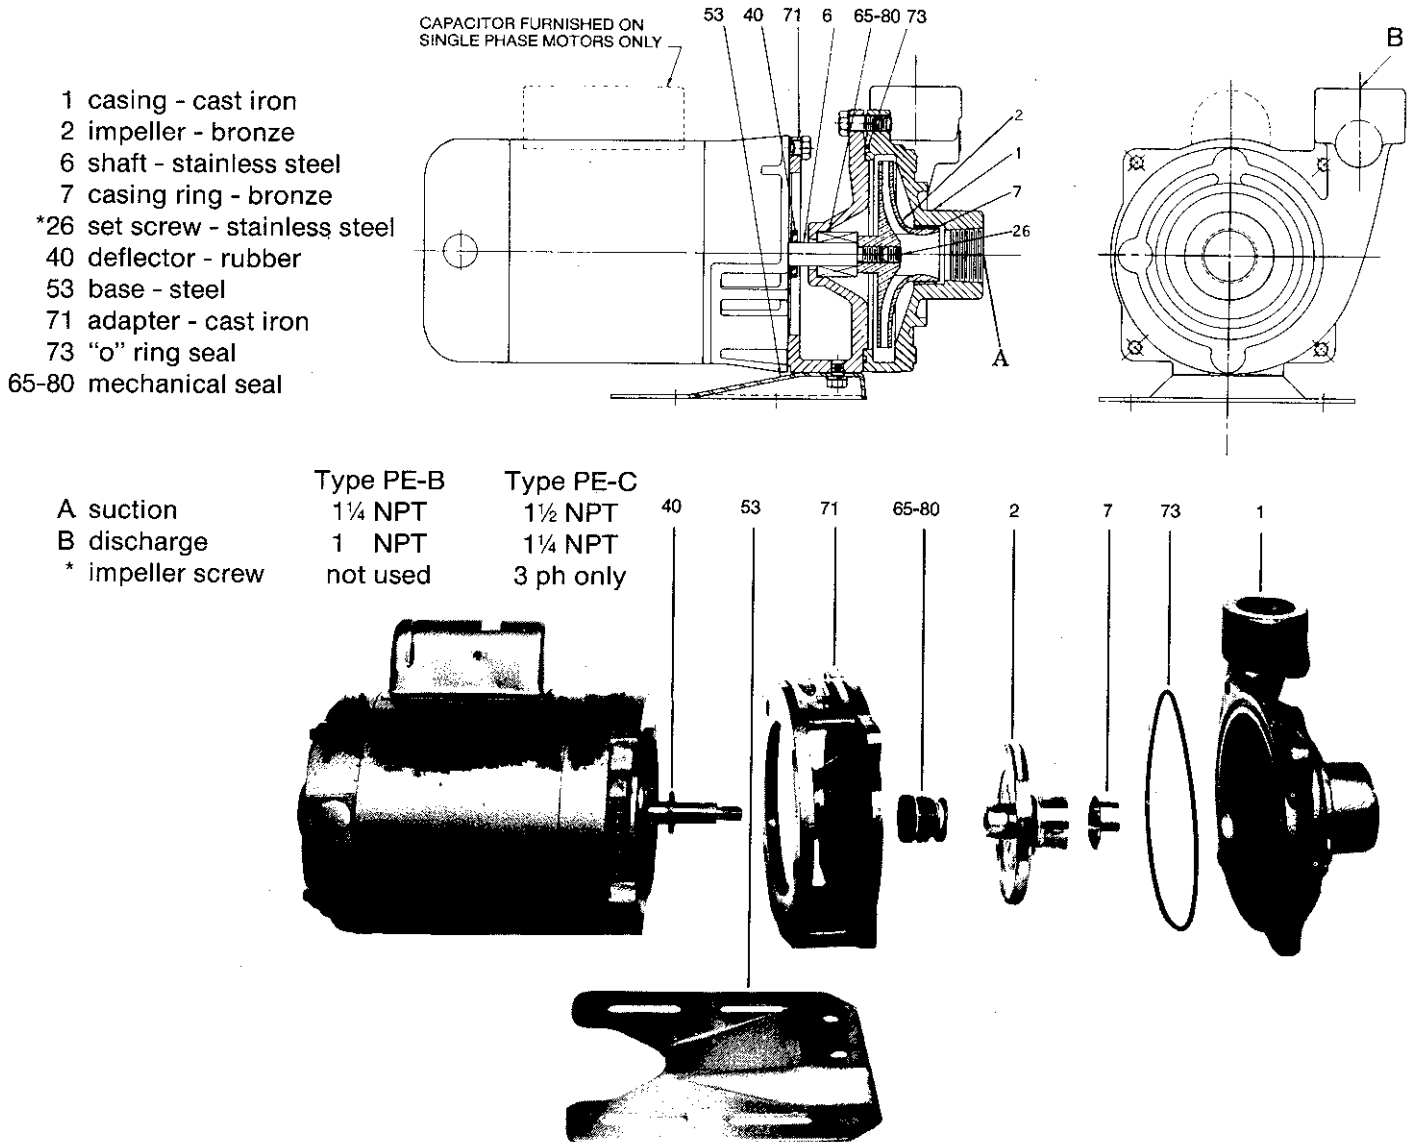

FIGURE 1. CLOSE COUPLED SERIES PE-B and PE-C
PE-B and PE-C: See figure 1. Remove the 4 case-to-adaptor screws and the mounting foot-screws. This permits removal as an assembly the motor, the adapter, the foot, and the impeller. Remove casing O-ring (130). The impeller (2) is now exposed for inspection and cleaning. See paragraph on impeller. The impeller is assembled to the motor shaft by 7/16-20 RH thread. On 3-phase, PE-C units, impellers are locked in place with a 7/16-20 hex socket set screw. If disassembly is necessary, hold the motor shaft with a screwdriver, engaging the slot which is covered by a cap at the opposite end, remove the set screw, if provided, and turn the impeller counterclockwise. The mechanical shaft seal (65-80) can now be removed for inspection, service, or replacement. Remove adapter (71) to motor frame screws. Remove adapter. Slide deflector from shaft.